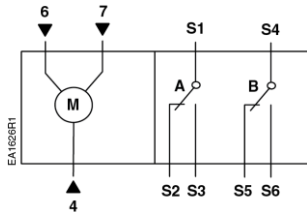

Figure 22. GLB34x Wiring.
1. Connect all wires per Figure 22.